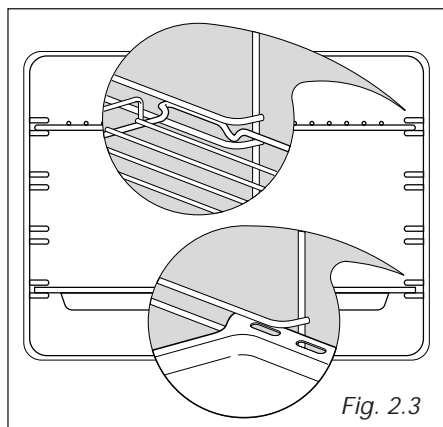

Fig. 2.3
- Slide into the guides, the shelf and the tray (fig. 2.3).